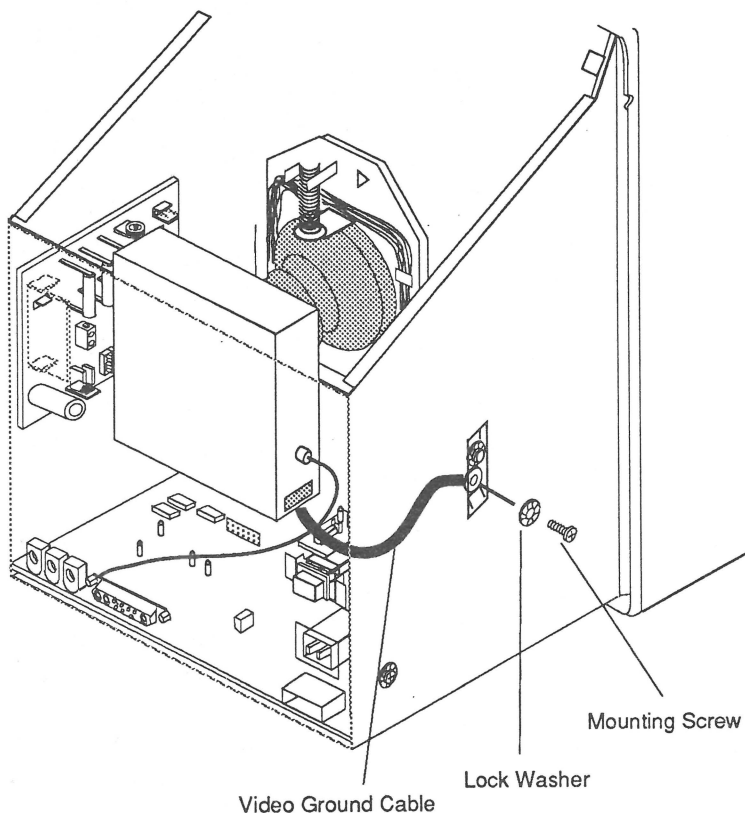

FIGURE 20
4. Remove the screw, lock washer, and large black video ground cable from the ground bracket (**Figure 20**).